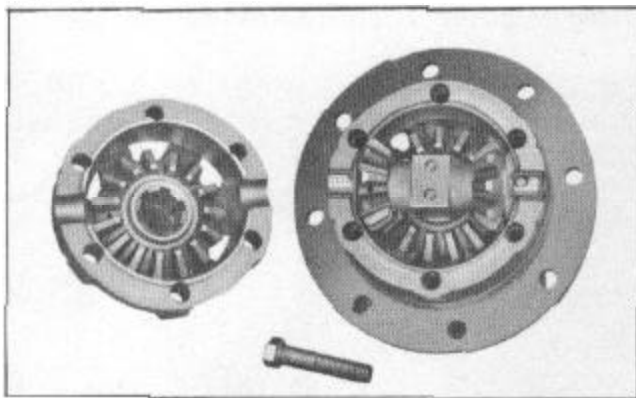

FIGURE 15
3. Remove bolts and lockwashers from differential case. Separate the right and left hand case, See Figure 15.